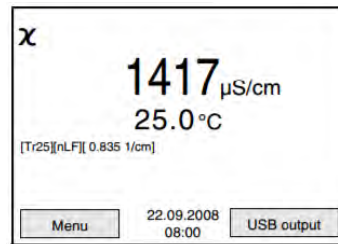

Figure 61: Display of cond3310 during measurement with nonlinear temperature compensation with a reference temperature of 25 degrees.
2. Under the conductivity and temperature values, information about the type of measurement is given, see Fig. 61. The first ☐ determines whether the measurement is temperature compensated or not (TrOff or Tr25, we need both). The second ☐ shows what kind of temperature correction is used (linear or nonlinear). For natural waters, like the Zackenberg River, is should be nonlinear (nLF).